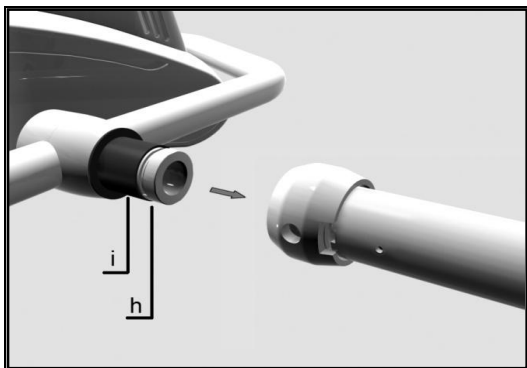

Figure 3
5. ⚠ Make sure the plastic bearing (i) is on the yoke and there is grease in the groove (h). The connectors are not shown in figure 3.